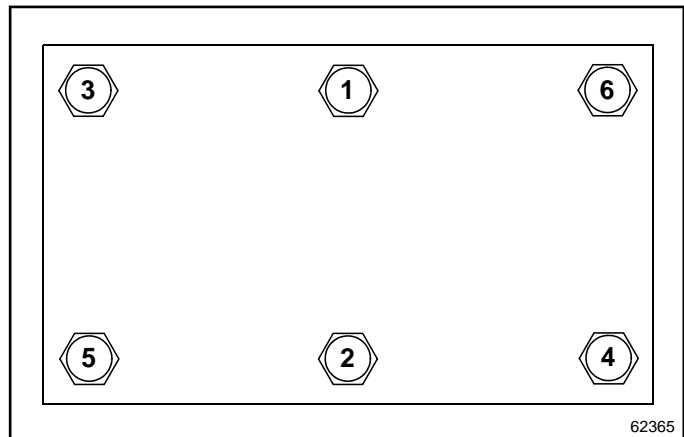

Figure 1-2: Straight Torque Pattern
- f. Tighten straight patterns using Figure 1-2, Straight Torque Pattern.